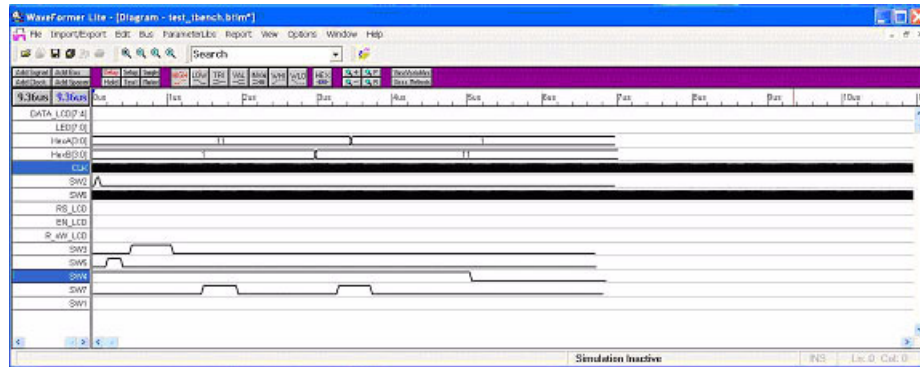

Figure 7-18. Testbench Waveform for the Tutorial Design
6. Follow similar procedure to enter the rest of the input signals. You will get a waveform similar to the one shown in Figure 7-18.